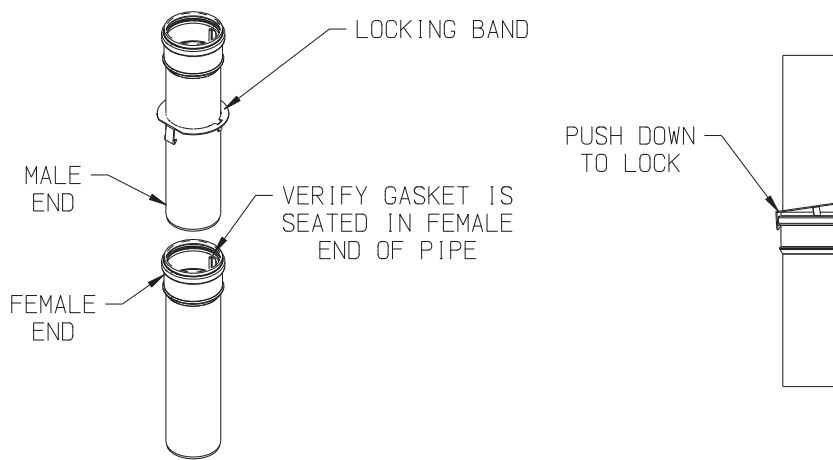

FIGURE 7.26: POLYPRO LOCKING BAND INSTALLATION
- c. For each joint, verify that the gasket is evenly seated in the bell (female) end of the pipe. Lubricate this gasket with water. Slide a locking band over the male end of the pipe to be joined as shown in Figure 7.26. Push the male end of the next section of pipe into the bell until it bottoms out, then back out 1/4-5/8" to provide room for thermal expansion. Push barb on locking band over the bell end of the first section of pipe as shown in Figure 7.26.